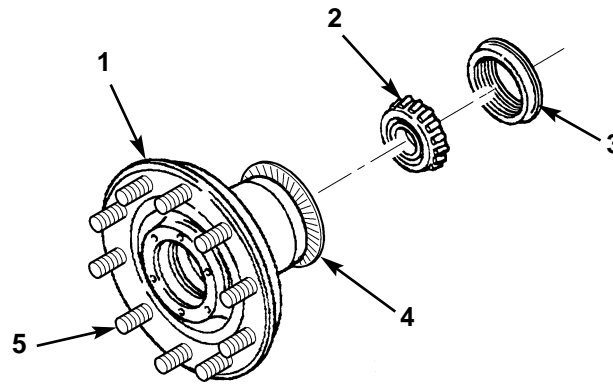
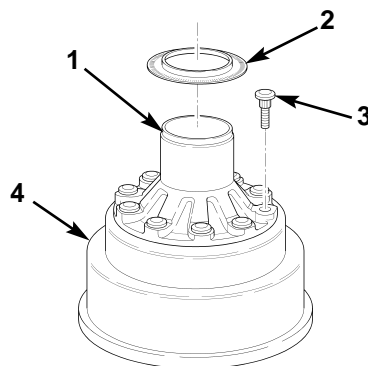

Figure 3. Removing Bearing Seal and Inner Bearing Cone.
Figure 4. Installing Bearing Cones, Wheel Studs, and Front Tone Ring.
6. Using suitable drift and hammer, remove seal (figure 3, item 3) and inner bearing cone (figure 3, item 2) from front hub (figure 3, item 1). Discard seal (figure 3, item 3).
7. Remove front tone ring (figure 3, item 4) from front hub (figure 3, item 1). Refer to WP 0021.
8. Using suitable press or hammer, drive wheel stud (figure 3, item 5) from front hub (figure 3, item 1).
9. Repeat step 8 to remove remaining wheel studs (figure 3, item 5) as necessary.
2. Position front hub (figure 4, item 1) facing down on front brake drum (figure 4, item 4) with wheel stud holes aligned.
3. Install new wheel studs (figure 4, item 3) on front hub (figure 4, item 1) as required.
4. Install front tone ring (figure 4, item 2) on front hub (figure 3, item 1). Refer to WP 0021.